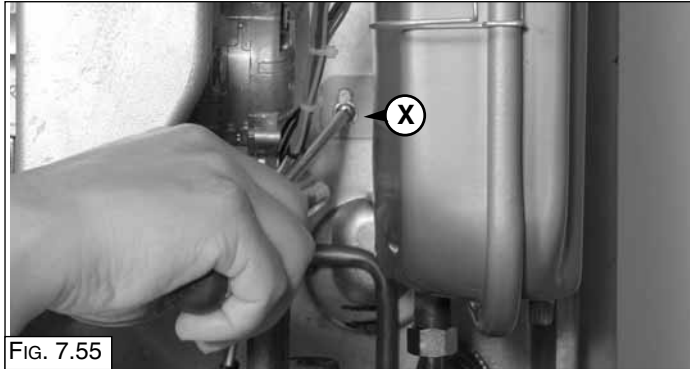

FIG. 7.55
1. Unscrew the screw "X" (FIG. 7.55);